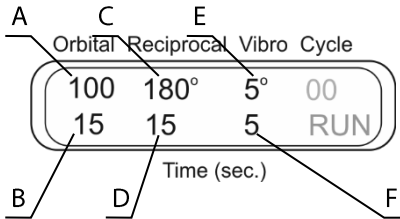

Fig. 6
6.9.2. **3D orbital + 3D reciprocal + 3D vibro** (fig. 6). Set the speed (**A**, 1 - 100 rpm) and time (**B**, 1 - 250 s) of 3D orbital motion. Set the angle (**C**, 0 - 360°) and time (**D**, 1 - 250 s) for 3D reciprocal motion. It is performed at the same speed as the orbital motion. Set the turning angle (**E**, 0-5°) and time (**F**, 1 - 5 s) for 3D vibro type motion.